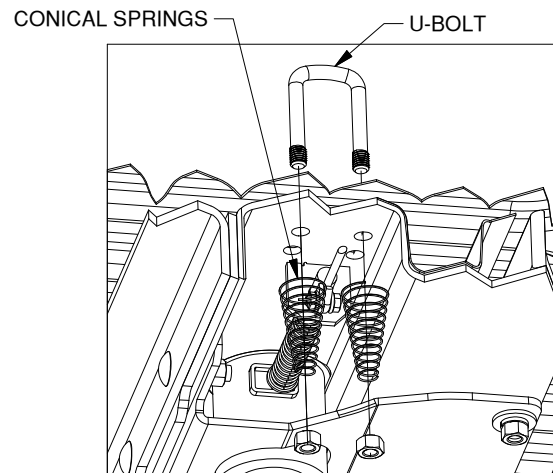

Figure I3: Cutaway view of bed and center section.
3. **Add springs.** Place a conical spring over each leg of the U-bolts and secure with a 1/2" lock nut, see Figure I3. Tighten the lock nut until the nut is flush with the end of the U-bolt.